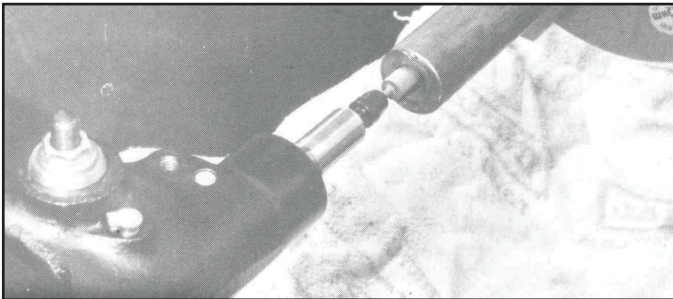

Figure 10
6. Internal grinding utilizes the collet chuck which screws onto the threaded wheel end of the spindle after the wheel and collars have been removed. Mounted wheels with 1/8" shanks can be used by inserting shank into chuck and tightening sleeve securely. Wheel size should be from 2/3 to 3/4 the size of the hole being ground, see figure 10. Refer to the mounted wheel chart on page 11 for proper size and overhang recommendations.
2. With the grinder make several light passes over the nib using the handwheel to traverse. The dressed face should contact the workpiece as shown in Figure 10.